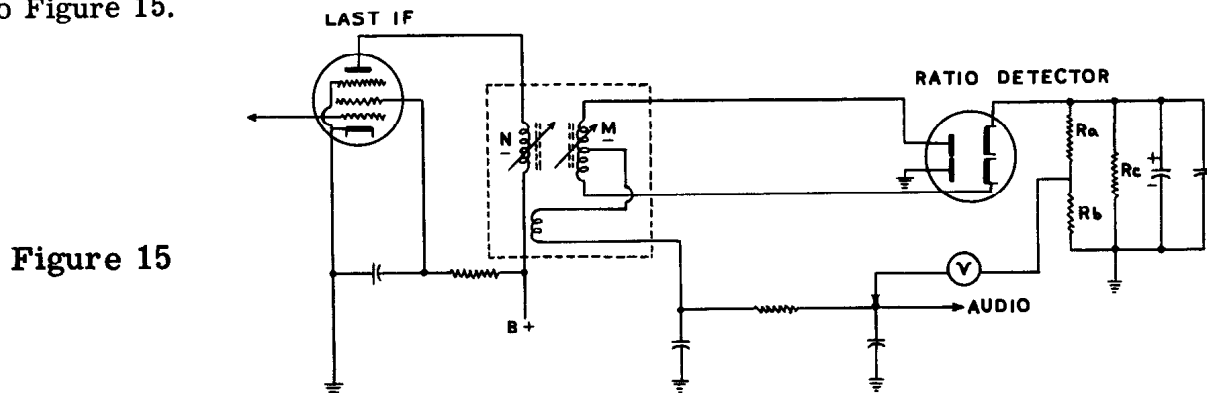

Figure 15
The following technique may be used for alignment of ratio detector FM receiver circuits. Refer to Figure 15.
- (1) Connect a VTVM or high resistance DC voltmeter across RC.
- (2) As before, both receiver and signal generator should be allowed to warm up. The receiver dial should be set to the low frequency end (88 mc) and the signal generator adjusted to give an unmodulated signal at the receiver IF. Connect the signal generator to the input of the mixer stage as before.
- (3) Adjust all IF trimmers (or slugs) for a maximum reading on the meter, using a low range and the least signal generator output possible. Repeat the adjustments at least twice to correct for any interaction. Be sure slug N is accurately adjusted.
- (4) Connect two 100,000 Ω 1/2 watt resistors across RC (RA and RB) and connect the voltmeter as shown in Point V in Figure 15.
- (5) Adjust the trimmer (or slug) M for a zero output indication on the meter.
- (6) Align the RF and oscillator stages using the techniques previously described, measuring the voltage across RC as an output indication.